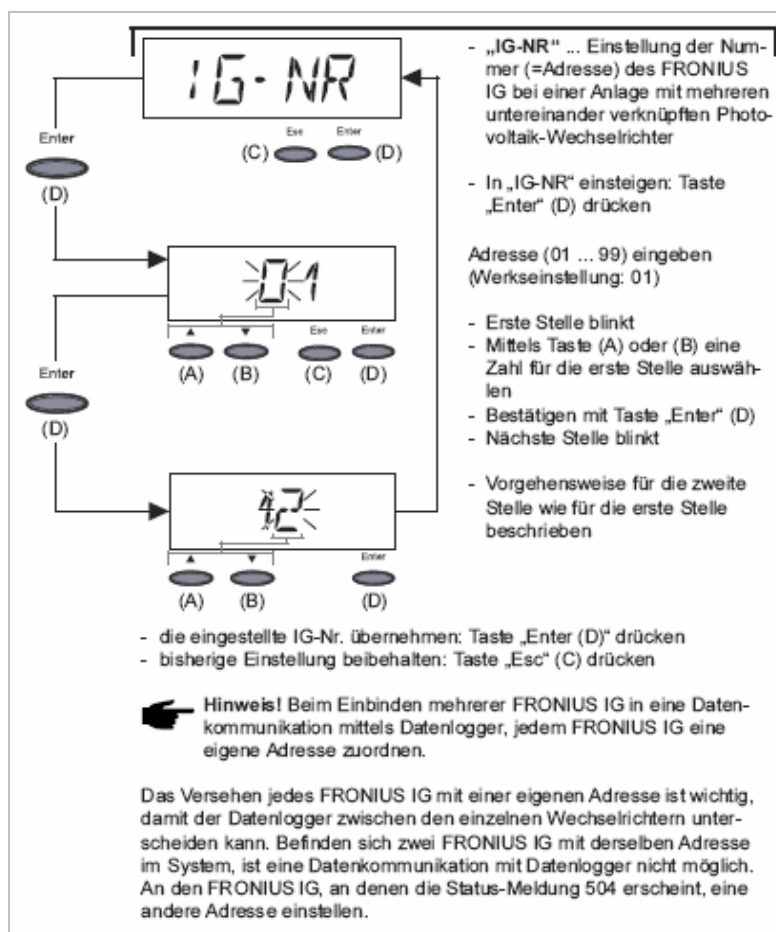

Fig. 8: Extract of the user's manual 012006
- Logger Channel: Each inverter must be assigned to a channel. This is done when installing and can be obtained from the inverter's display (see Fig. 8).